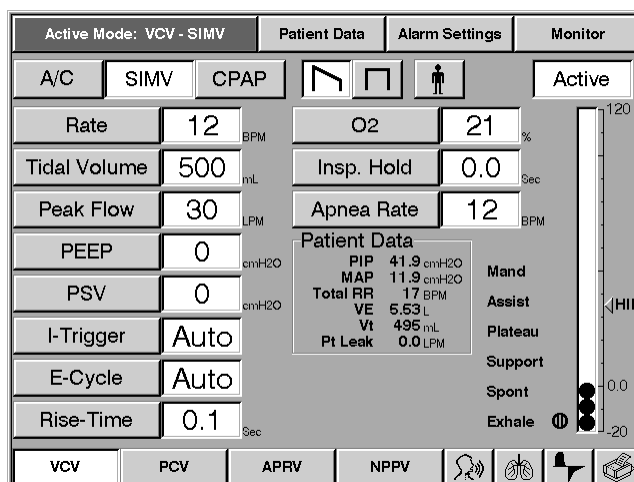

Figure 13-75: Settings Window with Auto-Trak Selected
3. Touch the Accept button. The ventilator does not begin using Auto-Trak until you touch the Accept button. The Settings screen now displays Auto as the I-Trigger and E-Cycle settings (Figure 13-75).